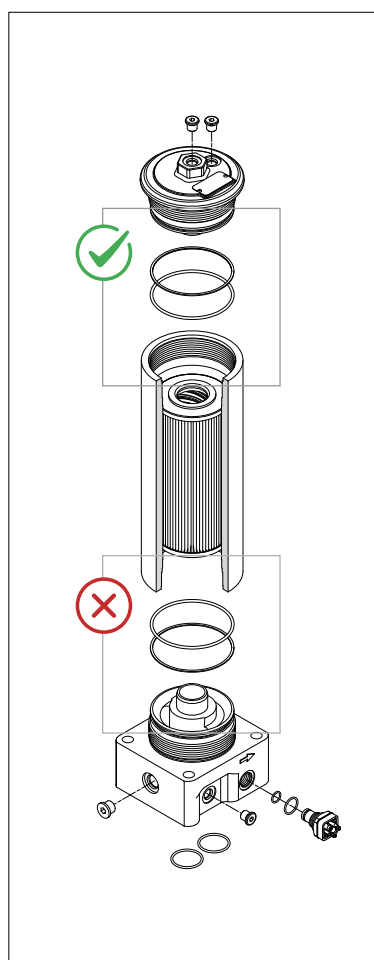

fig. 20
- (Fig. 20) Remove the cover seals, the manifold seals (if provided) and all the plugs, and prepare the spare parts referring to the list in paragraph 12